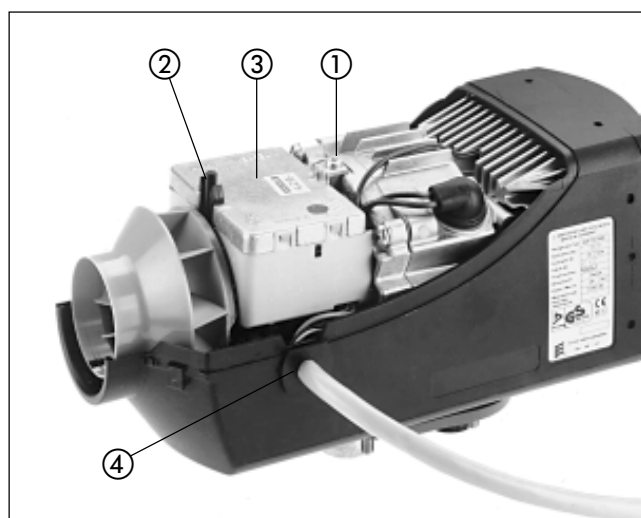

Fig. 2
Removing the controller (see fig. 2)
- Remove the controller (see fig. 2)